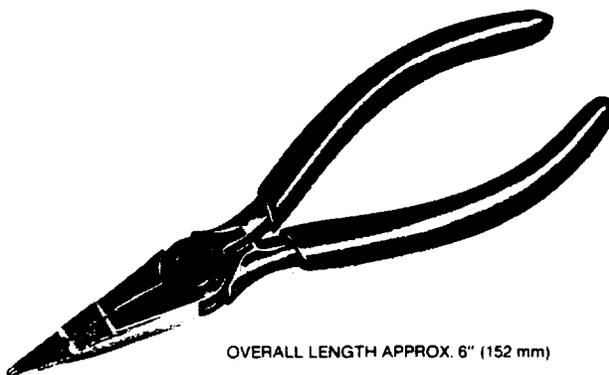

Figure 20. KS-21257 Pliers
2.27 The KS-21257 pliers (Figure 20 and Table E) are used for cutting wire and for crushing and stripping insulation on 22-gauge (0.6 mm) IPVC insulated wire. They are primarily intended for preparing the ends of jumper wire prior to wire wrapping or soldering. The tips are knurled to facilitate wire handling. An etched mark 1-5/8 inches (41 mm) from the end indicates the correct stripping length for 22-gauge (0.6 mm) wrapped connections. Handles are covered with yellow plastic cushion grips. Pliers are available with short or long jaws and aluminum oxide coating for insulation purposes.